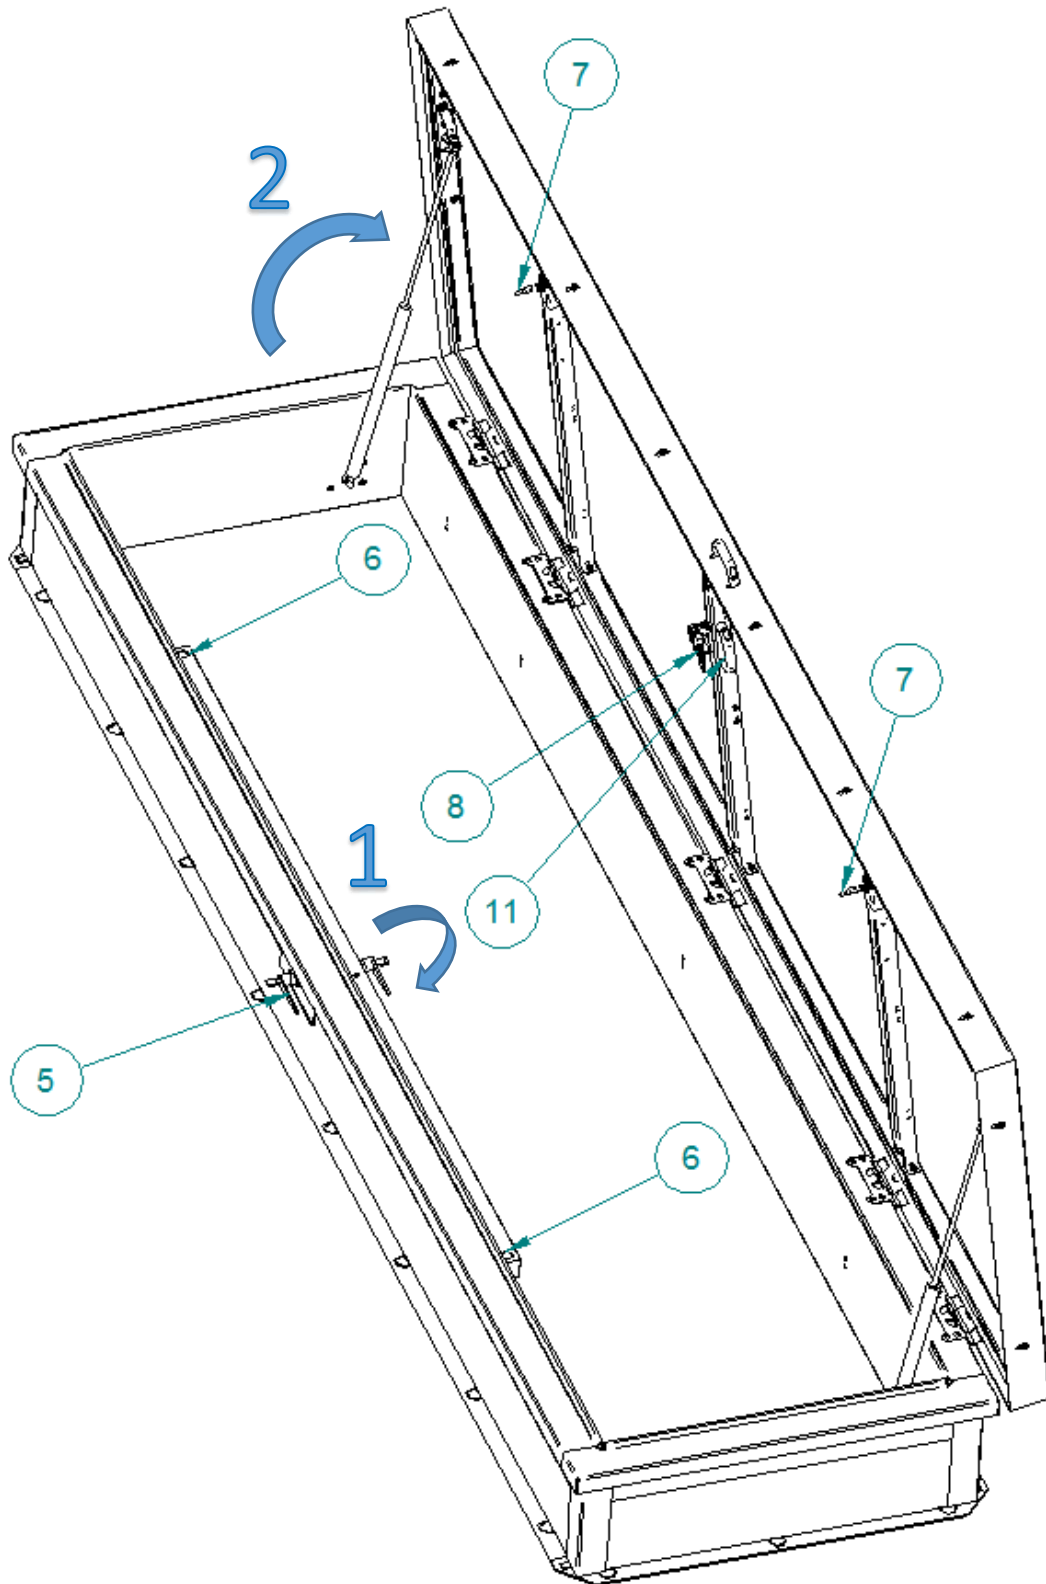

Fig. 18. mcr PROROOF ST roof access hatch with type 2 locking mechanism (gas spring-integrated locking mechanism) - opening and closing.
1. To open the hatch from the outside or from the inside, turn the key in the handle lock and turn the handle (5) by approx. 45° to release the lock bolts (7) by the spring locks (6). After releasing the bolts (the hatch will lift slightly), the hatch can be opened. See Fig. 18.